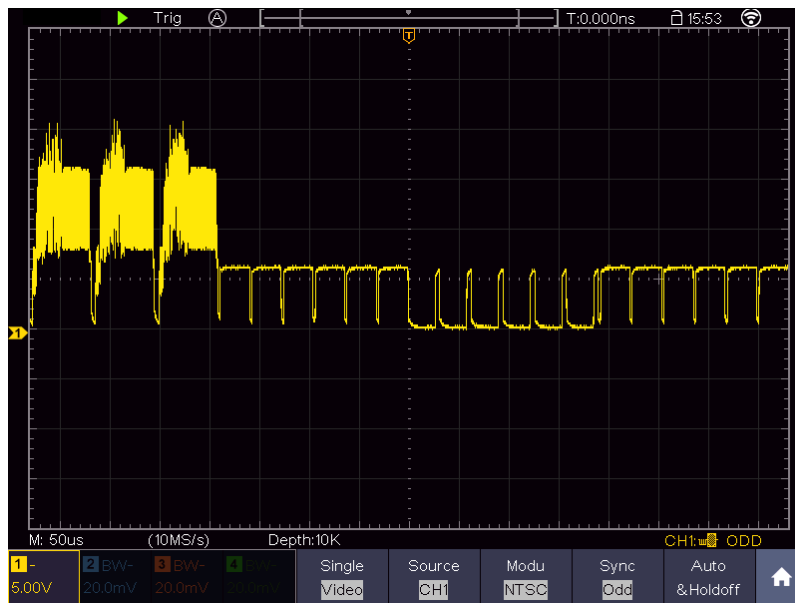

Figure 7-7 Waveform Captured from Video Field Trigger
- (1) Push the **Trigger Menu** button to display the trigger menu.
- (2) Select the first menu item in the bottom menu. Select **Single** in the right menu.
- (3) In the left menu, select **Video** as the mode.
- (4) Select **Source** in the bottom menu. Select **CH1** in the right menu.
- (5) Select **Modu** in the bottom menu. Select **NTSC** in the right menu.
- (6) Select **Sync** in the bottom menu. Select **Field** in the right menu.
- (7) Turn the **Vertical Scale**, **Vertical Position** and **Horizontal Scale** knobs to obtain a proper waveform display (see *Figure 7-7*).